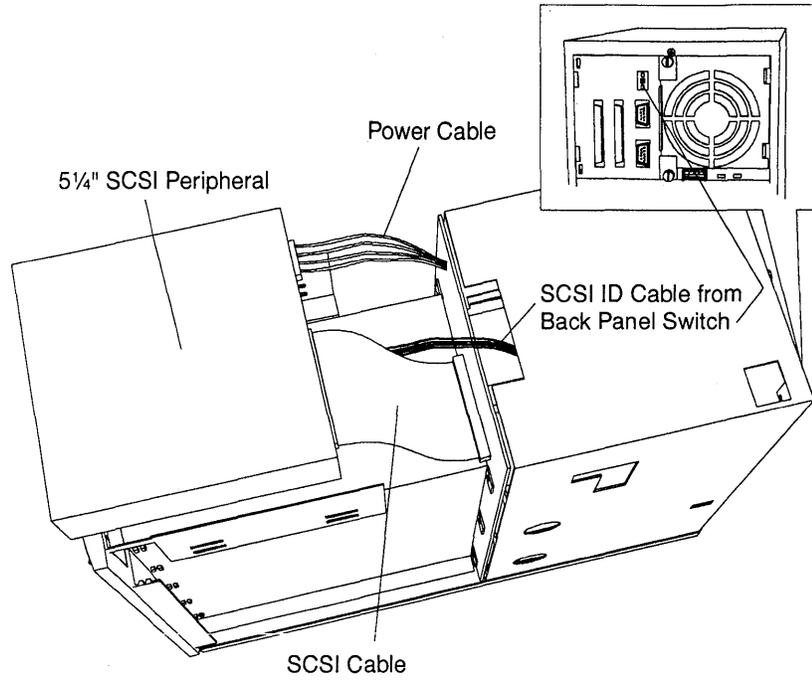

Figure 1-11: Attaching cables to peripheral
- 2 Attach the SCSI ID selector switch cables to the peripheral. This switch, which allows you to set the peripheral's SCSI ID, is located on the back panel. The selector switch cable comes routed from the switch, through the back plane and into the peripheral bay as shown in Figure 1-11. The cable has four color-coded wires. Attach the wires to the peripheral's SCSI ID jumpers as shown in the following diagram:
- 4 Attach the peripheral's power and SCSI cables, as shown in Figure 1-11.